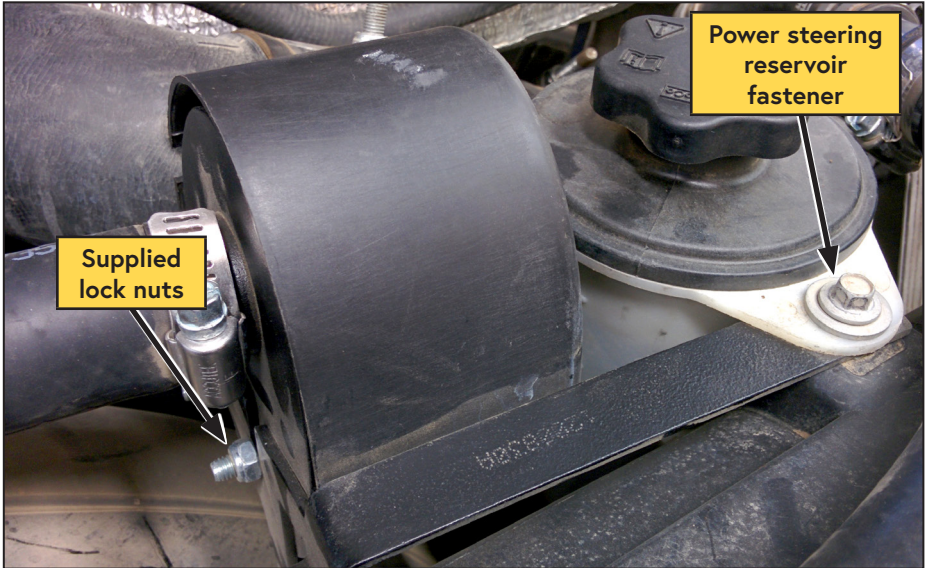

Figure 42 — Install the air filter bracket
- Remove the fastener securing the power steering fluid reservoir and install the VMAC air filter bracket between the reservoir tab and the radiator shroud using the OEM bolt (Figure 42).
- Install the VMAC air filter on the bracket using the supplied M6 lock nuts (Figure 42).